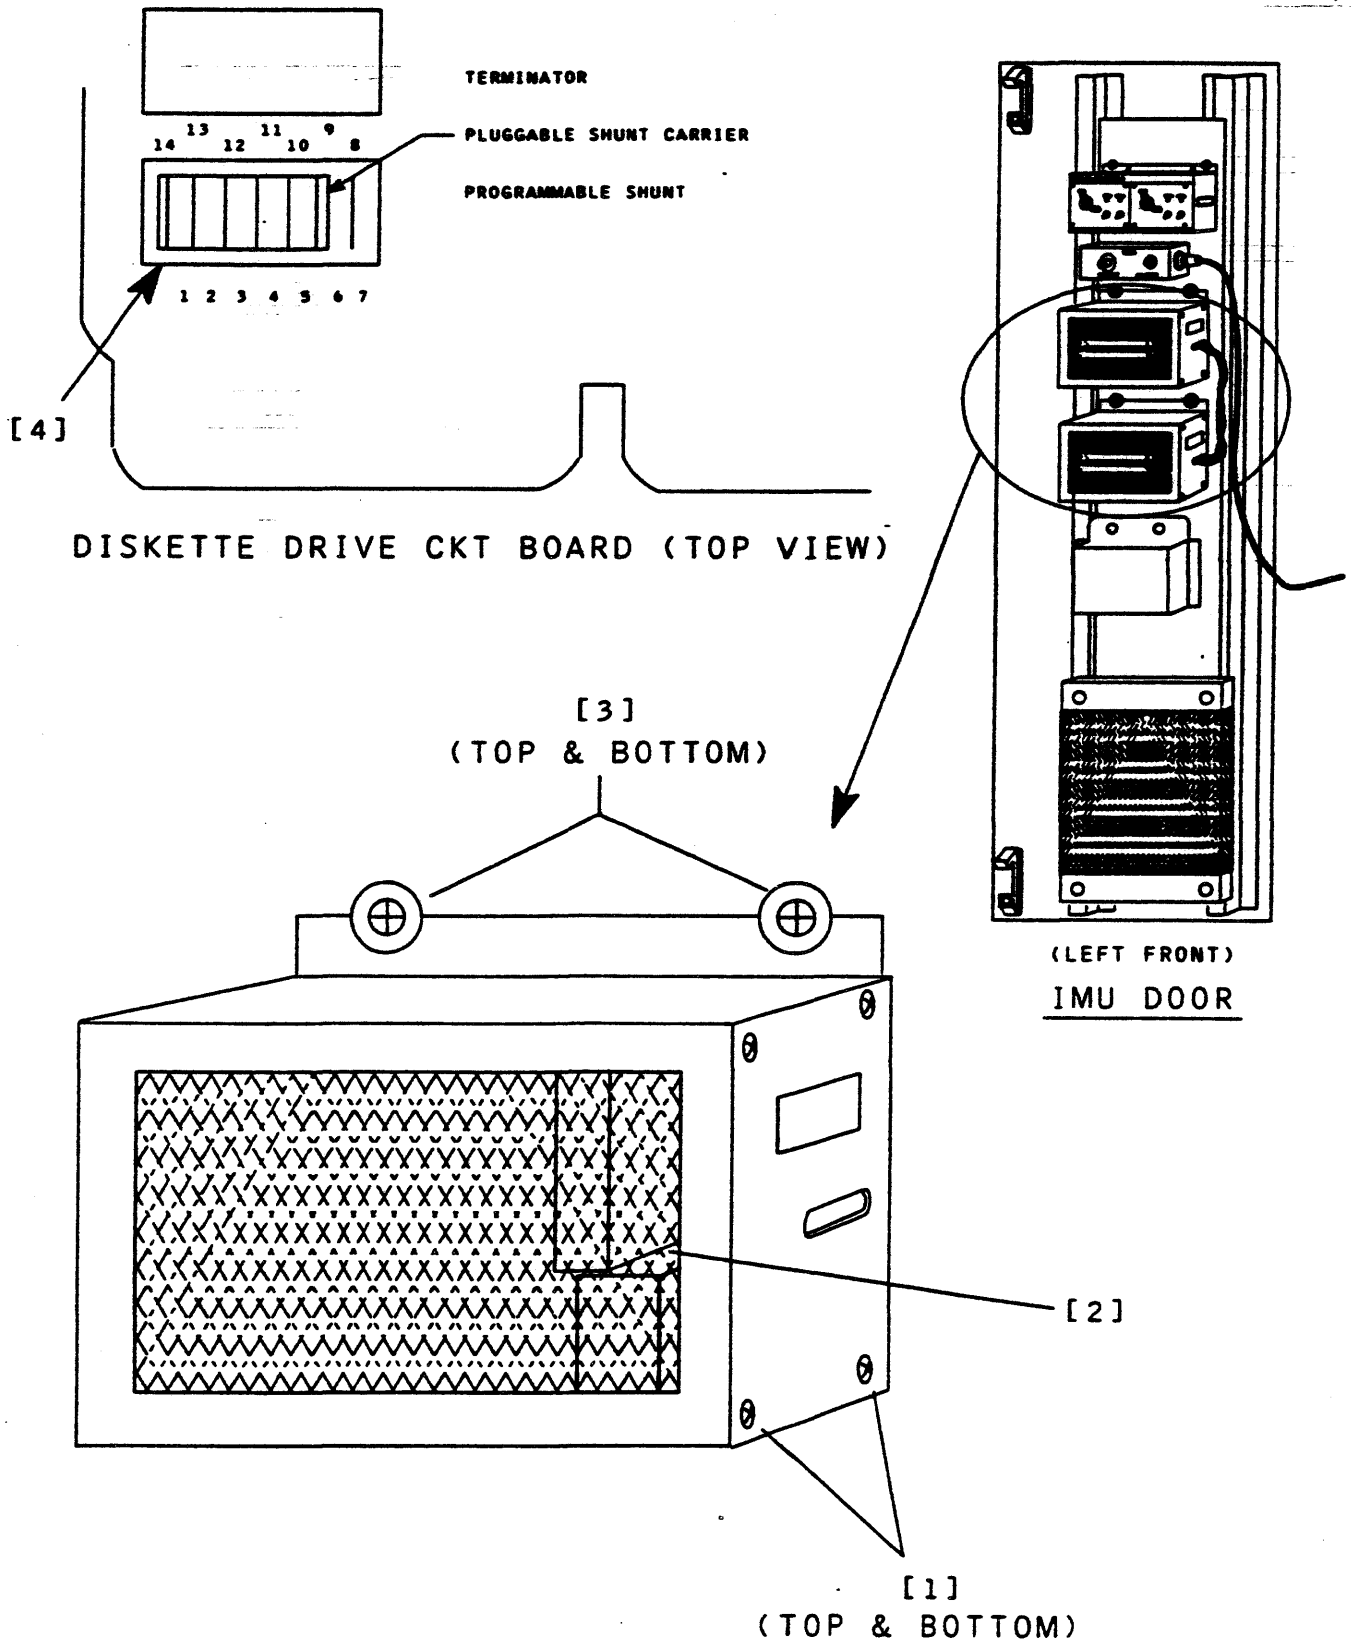

FIGURE 2.1-1. DISKETTE DRIVE UNIT REMOVAL/INSTALLATION
5. Using cross-tip screwdriver, remove drive unit's end plate (Figure 2.1-1, [1]).
6. Using hands, disconnect faulty drive unit's harness connectors (Figure 2.1-1, [2]).
7. Using cross-tip screwdriver, remove faulty disk drive unit's retaining hardware and remove unit from door panel (Figure 2.1-1, [3]).
9. Locate the programmable shunt and if present the terminator (see Figure 2.1-1, [4]).